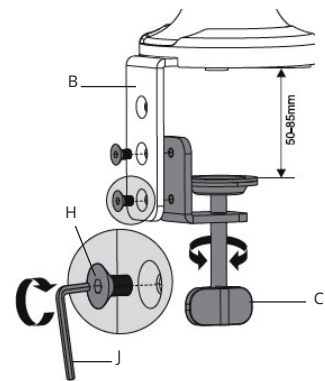

Figure 2B
- 2b) Desktops of 50mm-85mm thickness: Select the two lower mounting holes and secure them using Bolt (H) with Allen Key (J) turning clockwise until tight, see Figure 2B.